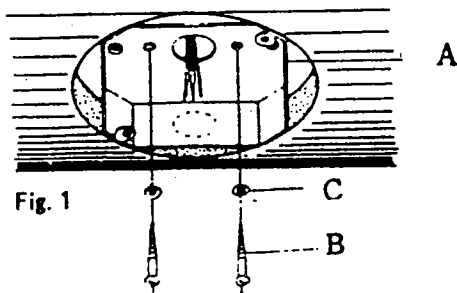

Fig. 1
1. In order to insure proper support, check and secure the ceiling outlet box (A) being firmly installed to the joist or beam. Two wood screws (B) and washers (C) are provided for this purpose (Fig. 1) Remember that the ceiling outlet box must be capable of supporting at least 35 pounds. Do not use lubricants on screws and screw pilot hole drilled shall not be larger than the minor diameter of the screw. Do not use a plastic outlet box.